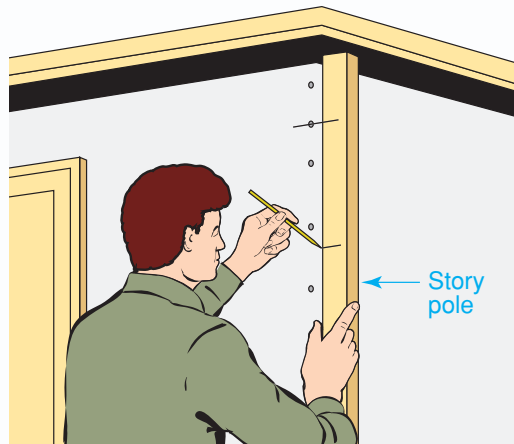

Figure 23-10 Story Pole
Step 1 Hold the story pole in position against the soffit. Transfer the marks from the story pole to the house on all corners and on all window and door casings. On a long wall, intermediate layout marks may also be needed. Make sure that the bottom marks are clearly visible on the foundation (see **Figure 23-10**).